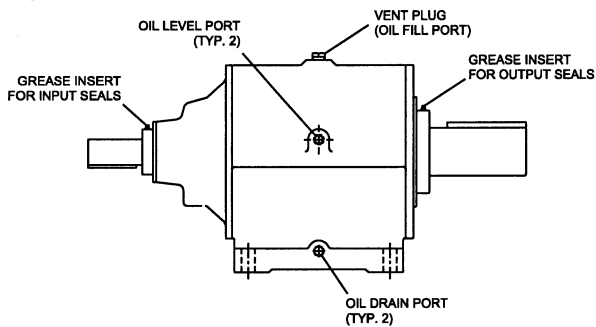

Figure 5.1 Reducer Oil Ports, Vent Plug, and Grease Insert Locations
3. Remove oil fill plug (vent plug) and one of the two oil level plugs (reference Figure 5.1).
2. Remove oil fill plug (vent plug) for ventilation (reference Figure 5.1).
1. Clean grease inserts, reference Figure 5.1 for location.